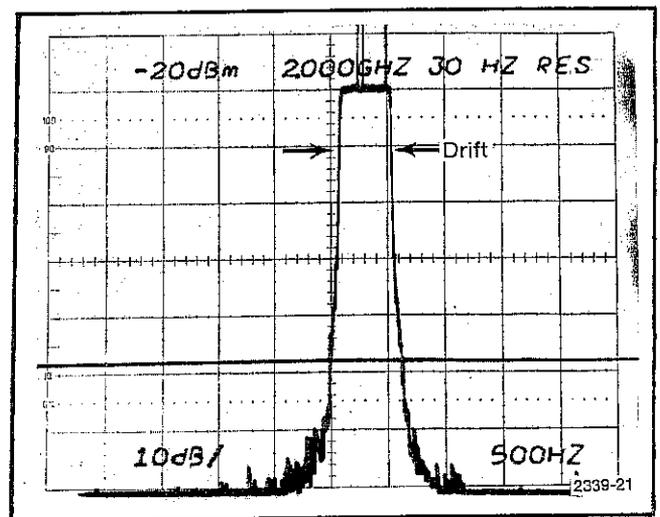

Fig. 4-7. Measuring Stability Using MAX HOLD Feature of 7L18.
d. Check—stability or drift as the width of the response (see Fig. 4-7) over the specified time period. Drift must not exceed 2 kHz.